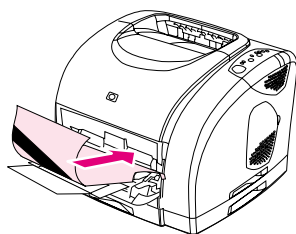

Figure 9. Loading the cleaning page in tray 1
- 5 Remove the page that printed and load it face-down into tray 1 (see figure 9).